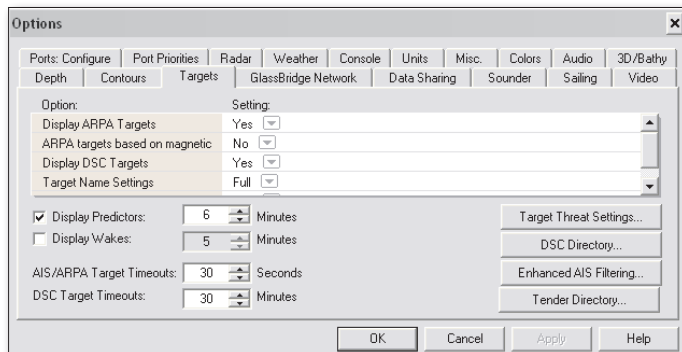

Figure 19.2 - Tools | Options - Targets Tab
1. Open **Tools | Options | Targets** (see **Figure 19.2**).